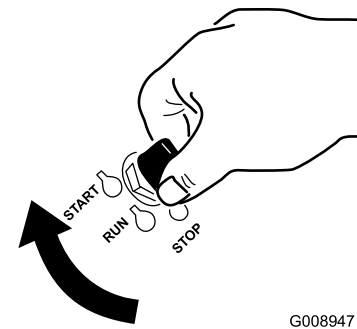

Figure 17
7. Turn the ignition key to the Start position (Figure 17). When the engine starts, release the key.